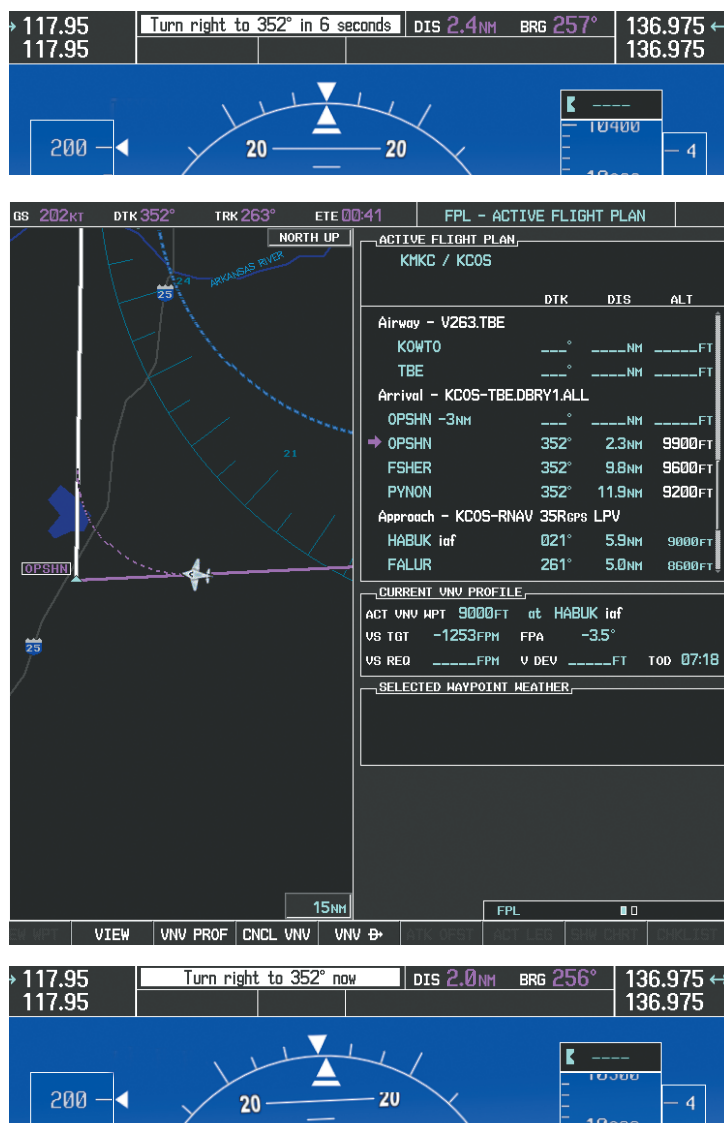

Figure 5-136 Turn to intercept OPSHN to FSHER Leg
- 18) The aircraft is approaching OPSHN. The upcoming turn and next heading are annunciated at the top left of the PFD as seen in Figure 5-136. Initiate the turn and maneuver the aircraft on a track through the turn radius to intercept the magenta line for the OPSHN to FSHER leg and center the CDI.